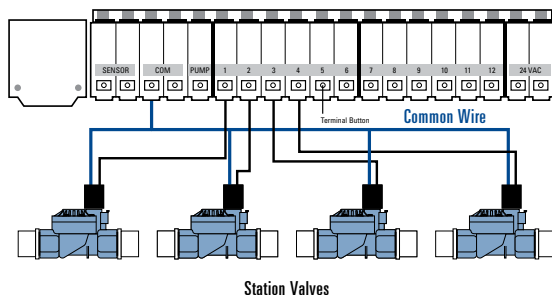

Figure 5: Connecting Sprinkler Wire
- Connect one wire from each valve (it doesn't matter which wire) to a single “common” sprinkler wire. This is usually white. (See Figure 5)
- Determine which valve you want to connect to which station. Insert each sprinkler wire, excluding the "common" wire, into a separate station socket (numbered above each socket) by inserting the bare wire fully into the socket under each number. (See Figure 5)